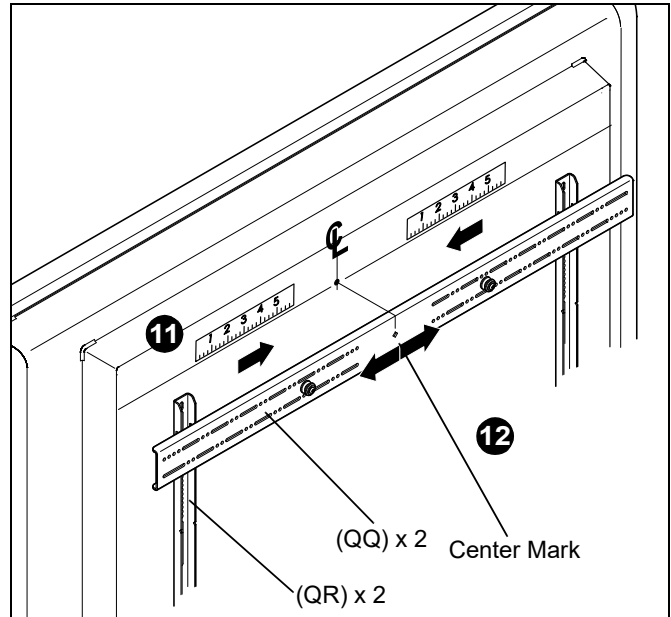

Figure 11
11. Determine and mark the horizontal center position between the Left and Right *TOP* mounting holes in display. (See Figure 11)
12. Determine and mark the horizontal center position between the Left and Right *BOTTOM* mounting holes in display. (See Figure 11)
13. Orient upper horizontal mounting bracket (QQ) so that flanges are facing towards display and resting in recessed area of left and right vertical mounting brackets (QR). (See Figure 11)
14. Adjust Upper horizontal mounting bracket (QQ) position until center diamond in horizontal mounting bracket (QU) aligns with mark made in Step 9, and mounting holes and slots in horizontal mounting bracket (QQ) are aligned with threaded holes in mounting tabs of left and right vertical mounting brackets (QR). (See Figure 11) and (See Figure 12)